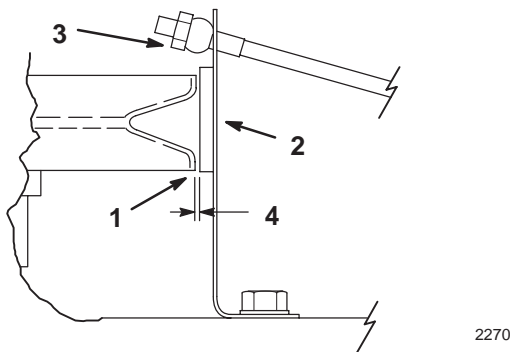

Figure 30
3. Using a feeler gage, measure between the bottom flange of the (3) blade pulley and brake pad (Fig. 30). Adjust the locknut on the brake rods to obtain the proper clearance of 0.02–0.06 inch (0.5–1.5 mm) (Fig. 30).